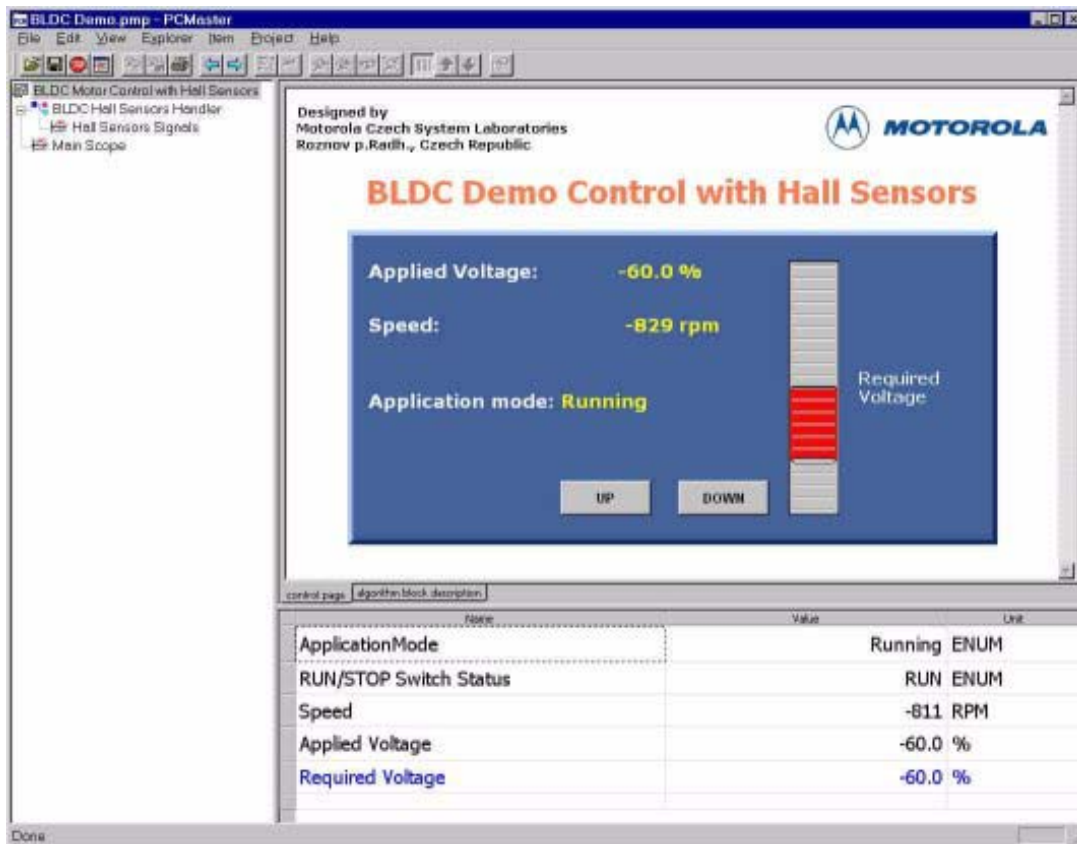
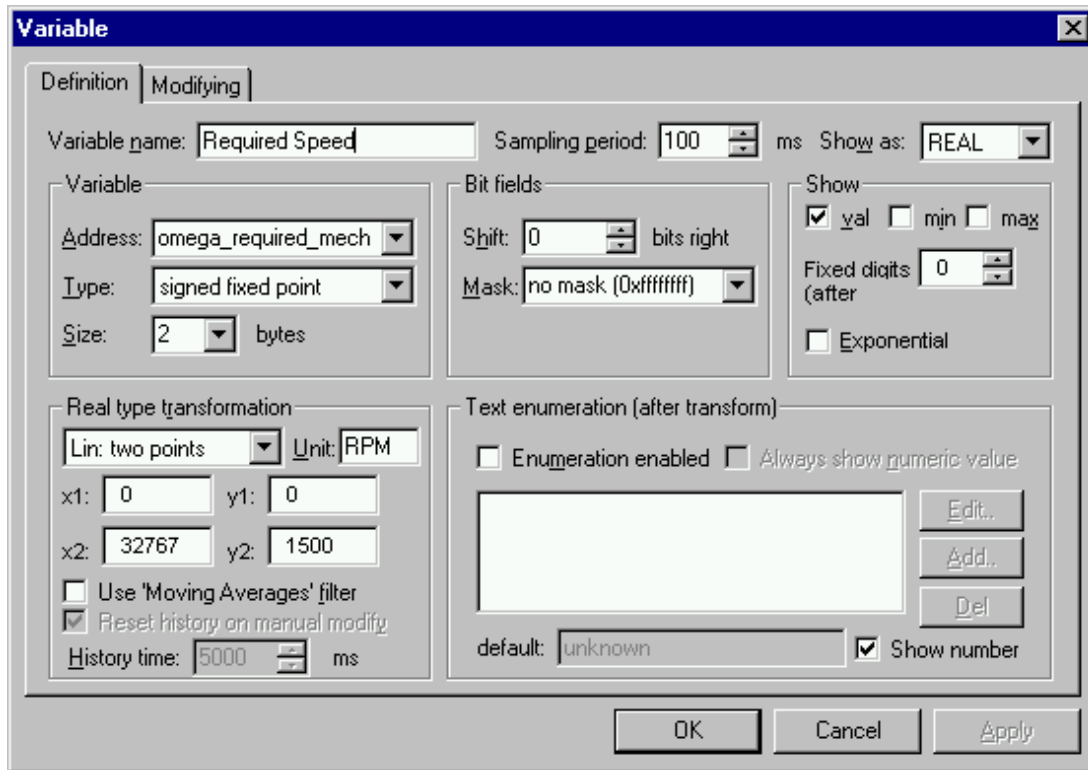
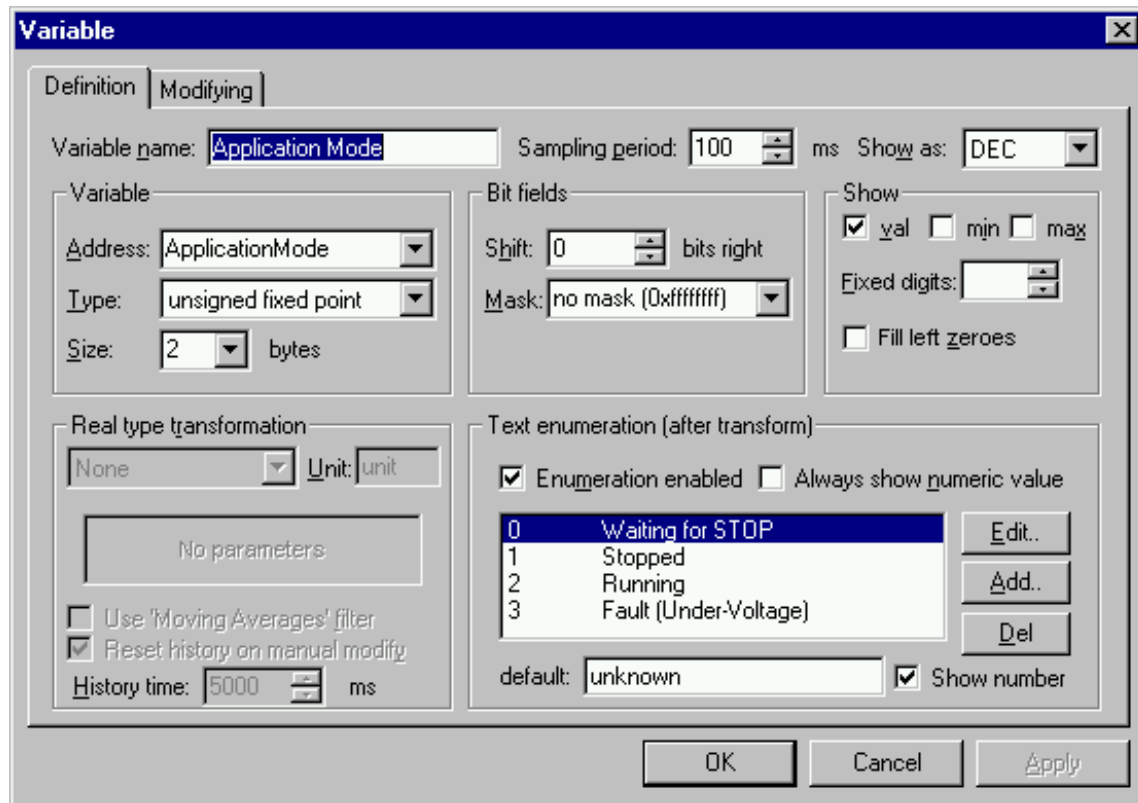

Figure 1. PC Master Software Application Window
Figure 2. Example of Real-Type Transformation of a PC Master Software Variable to Obtain the Correct Quantity Value
Figure 3. Displaying the Status Variables with Enumeration
The PC master software application window is shown in **Figure 1**. The window consists of various panes: the Project Tree pane, the Detail View pane, and the Watch-grid pane.
In **Figure 2**, you can see an example of the PC master software variable definition with linear transformation to obtain the correct value of the rotor’s revolutions. In **Figure 1** you can see the Speed variable in the Watch-grid pane. Here, the variable represents the rotor’s revolutions in RPM. The minimum value of the 16-bit variable (0) corresponds to 0 RPM, the maximum value (32767) corresponds to 1500 RPM. The coordinates of the first point are [0, 0] and the coordinates of the second point of the linear transformation are [32767, 1500].
Embedded applications usually contain many status variables whose contents indicate the current state of the application. Wouldn’t it be great to see a text description of each state, instead of an impersonal number? That can also be done with PC master software with the possibility of enumerating any variable and assigning several text values to it. As an example, **Figure 3** shows the configuration of the ApplicationMode variable. This variable was highlighted in **Figure 1**.